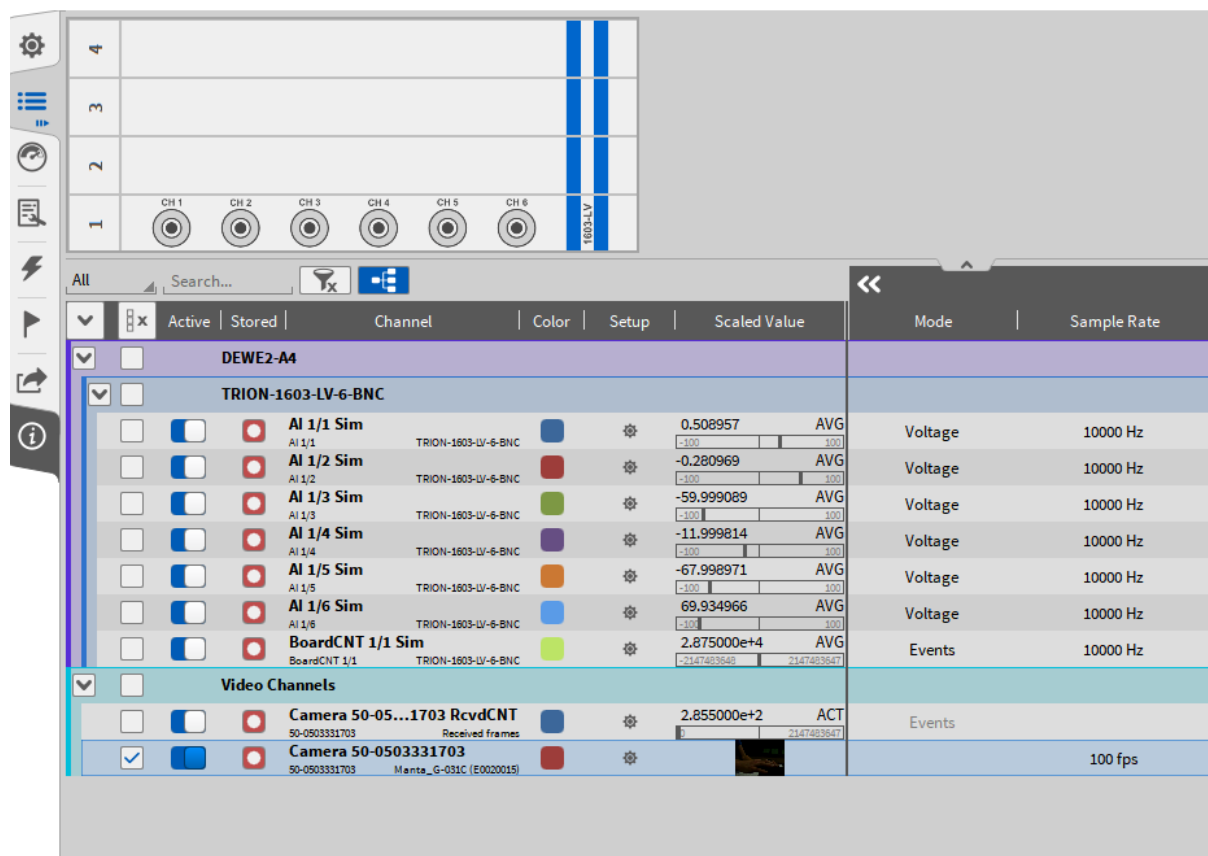

Fig. 8.90: Frame Counter Channel
**Note:** For each connected camera, there exists a counter channel that counts the number of received frames since acquisition start. The channel has the same name as the respective camera with RcvdCNT appended. To activate the counter, you need to activate the channel (The channel is not activated automatically). The channel can be found in the *Video Channels* section of the Channel List (see Fig. 8.90).